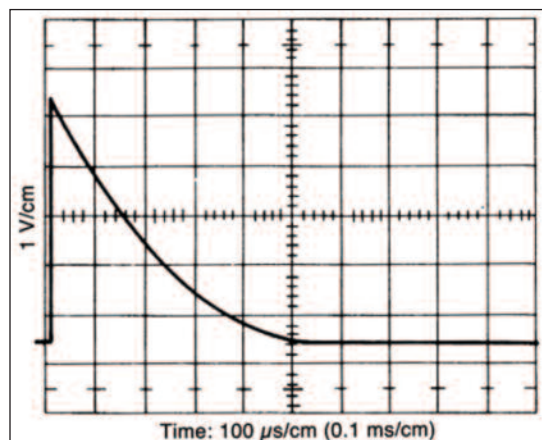

Fig. 1.8. Typical Pulse Generator Output.
5. Trigger the oscilloscope by adjusting the Triggering Level control. If the trace will not trigger, re-check the settings of the parameters in Table 1.1. When the oscilloscope is operating properly, the output should appear approximately as that shown in Fig. 1.8. Note that in Fig. 1.8 the maximum amplitude appears at the beginning and is ~ 5 V. It may be necessary to adjust the Vertical and Horizontal Position controls to properly position the signal trace in the display.